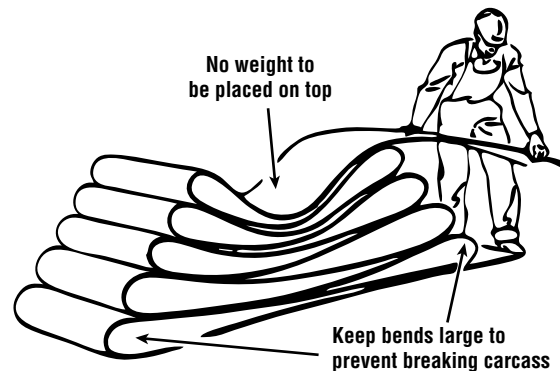

Fig. 3
- 9) In some case, such as in mines, where head room does not permit maneuvering a roll, the belt may have to be pulled off the roll and reefed (Figure 3). Extreme care should be exercised to see that the loops have large bends to avoid kinking or placing undue strain on the belt. Weight should never be placed when it is in this position.